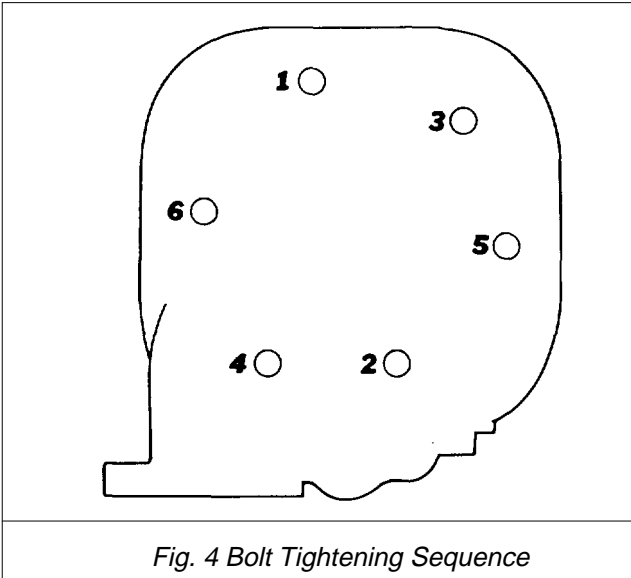

Fig. 4 Bolt Tightening Sequence
- (1) Push a valve stem oil seal onto the intake valve guide and clamp in place. Then oil the inside surface of the seal.
- (2) Oil the stem of each valve lightly and insert into its own guide.
- (3) Check each valve for a tight seat with an air pressure type tester. If a tester is not available, make pencil marks at intervals on the valve face and observe if the marks rub off uniformly when the valve is rotated part of a turn in the seat. If the seat is not tight, regrind the valves.
- (4) Using a valve spring compressor, compress each valve spring and insert the valve spring retainer and retainer locks.
- (5) Install the head assembly and gasket to the cylinder block. Tighten the head bolts evenly to 44 to 46 ft/lbs. See Fig. 4 for proper tightening sequence.
- (6) Install the exhaust manifold, nozzles, glow plugs and oil lines. Tighten manifold nuts evenly to 13-15 lbs.
- (7) Install the valve stem caps.
- (8) Install the push rods, rocker arms and rocker arm nuts.
- (9) Set the valve clearance. Intake is .011 in.; exhaust is .008 in..
- (10) Install and adjust the decompression mechanism.
- (11) Install the rocker cover. Remove the solenoid, dip plunger "OO" ring in oil and reinstall when cover is on engine.
Important: After the first 50 hours of operation, retighten the cylinder head bolts and check valve clearance. See Fig. 4.